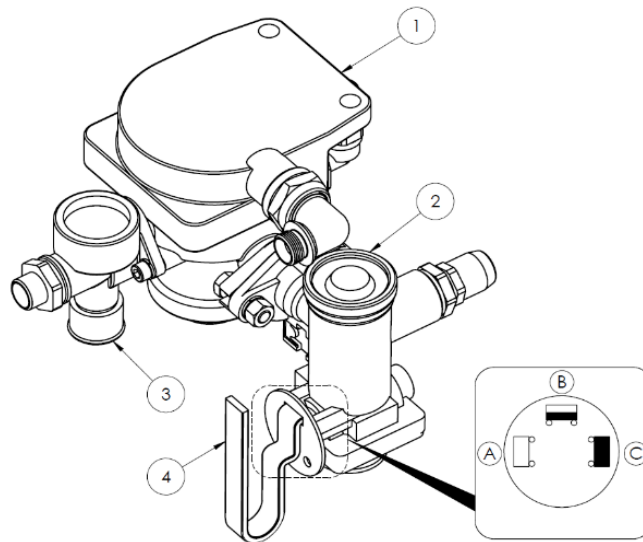

Figure 9 The control valve and the braking-force regulator for pneumatic brakes:
The braking-force regulator (2) – see Figure 9 – applied in the pneumatic braking system adjusts the braking force, according to the hopper load. Switching to the correct working mode is done manually, by shifting the position of the lever (4). This is done by the operator, before starting to drive. The following three working positions are available: (A) “UNLADEN”, (B) “HALF LOAD”, (C) “FULL LOAD”.